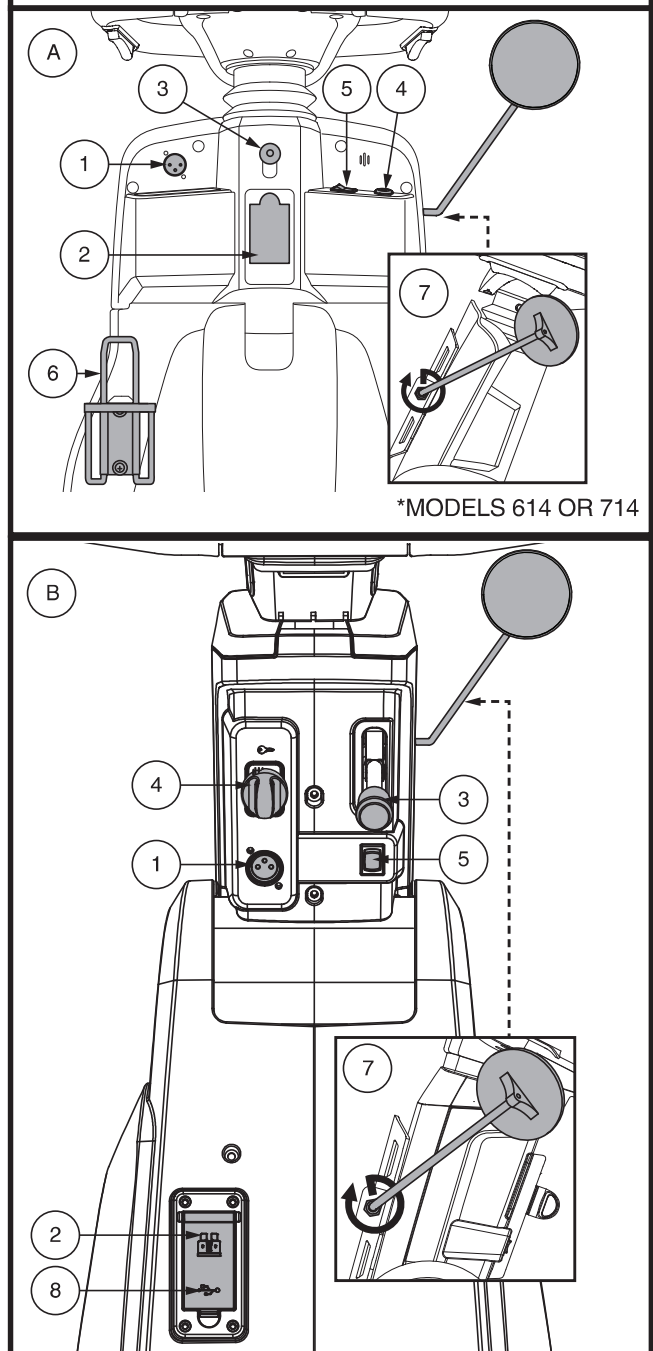

Figure 8. Lower Tiller Components
The off-board charger power cord plugs into this port during battery charging. The off-board charger port will be located on the tiller. See **figure 8**.
- Insert the key into the key switch and turn it clockwise to power up (turn on) your scooter. See **figure 8**.
This switch dictates which throttle control lever (left or right) will function. See **figure 8**.